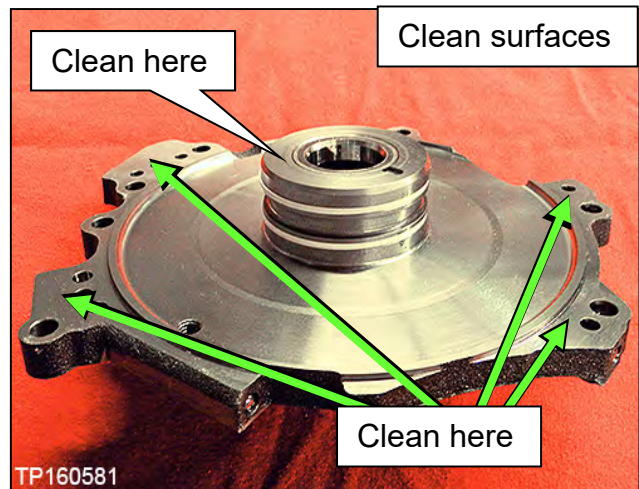

Figure 116
- Clean the dummy cover surfaces that contact the CVT case and thrust bearing (Figure 116).